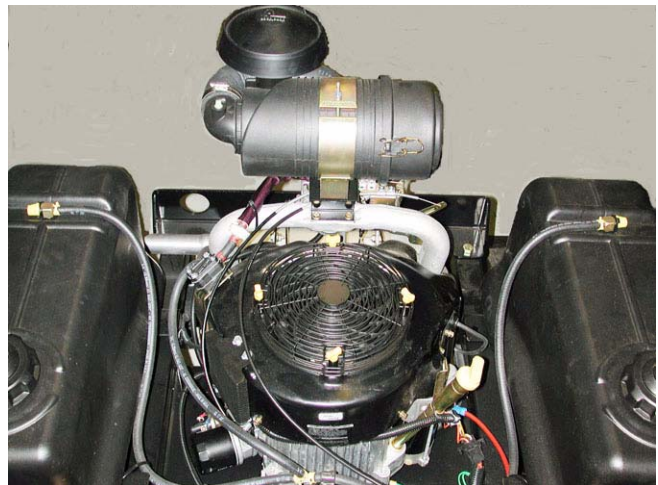

Figure 8.10
8.10. A larger engine is required to power the larger deck and heavier total weight of the mower. A 28 H.P. Generac Guardian engine is employed. See Figure 8.10.